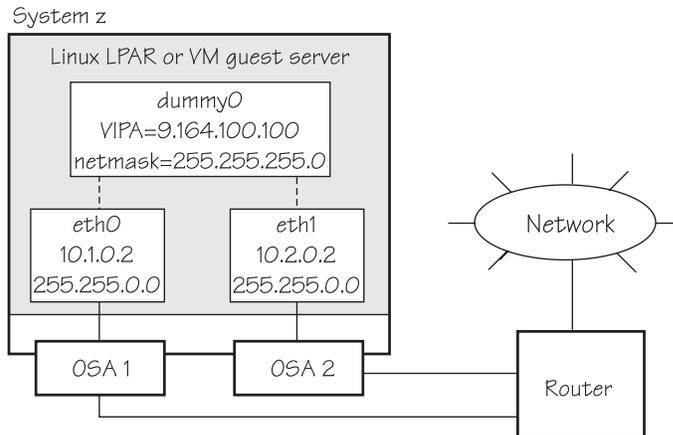

Figure 23. Example of using Virtual IP Address (VIPA)
- Static routing (shown in the example of Figure 23 on page 134).
Figure 23 on page 134 shows the network adapter configuration used in the example.